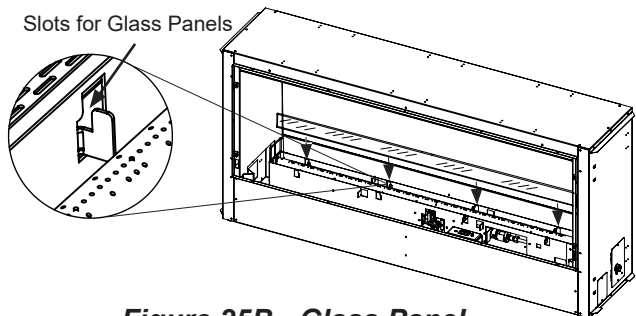

Figure 25B - Glass Panel Installation STEP 2
2. Install the first of the longer panels of glass, holding it in the center and using the end panels as guides. Slide it into place at the rear of the burner. Push into place. Repeat the process in the front of the burner. In order to prevent glass breakage, be careful not to stress the glass (see figure 25B).